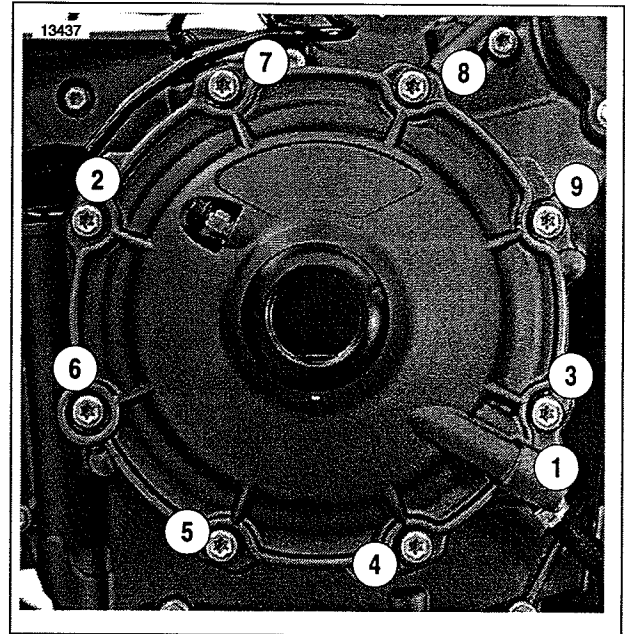

Figure 5. Secondary Actuator Cover Torque Sequence
- See Figure 5. Remove the cover fasteners in torque sequence and remove cover.
27. Install the outer disc plate and the thrust washer (3).
28. Apply LOCTITE 243 (blue) to the threads of the diaphragm clutch release pin nut (2).
29. Thread on the nut. Holding the flat of the clutch release pin (1), tighten nut to 133 in-lbs (15 Nm).
30. See Figure 5. Install the secondary clutch actuation cover fasteners and tighten in sequence shown to 89 in-lbs (10 Nm).